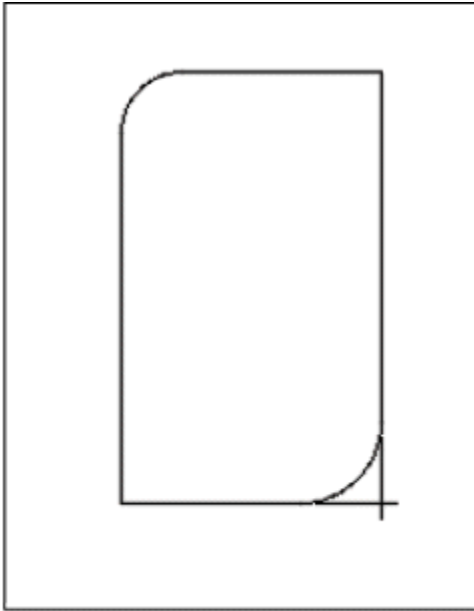

Figure-49. Edge extension created
- On selecting the second edge, the extended edge will be displayed; refer to Figure-49.